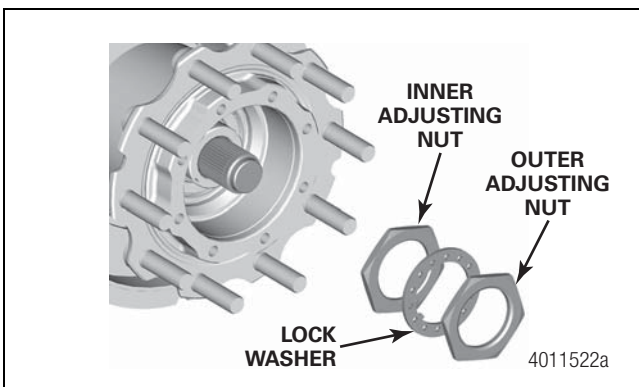

Figure 7.18
5. Install the inner wheel bearing nut, wheel bearing lock washer and outer wheel bearing adjusting nut. Figure 7.18.